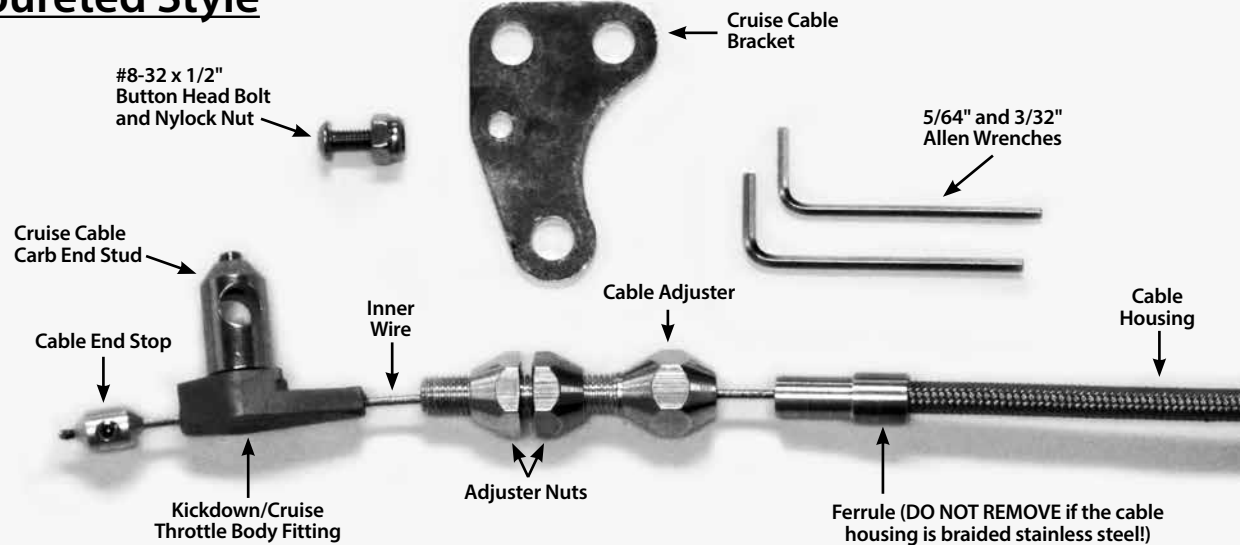
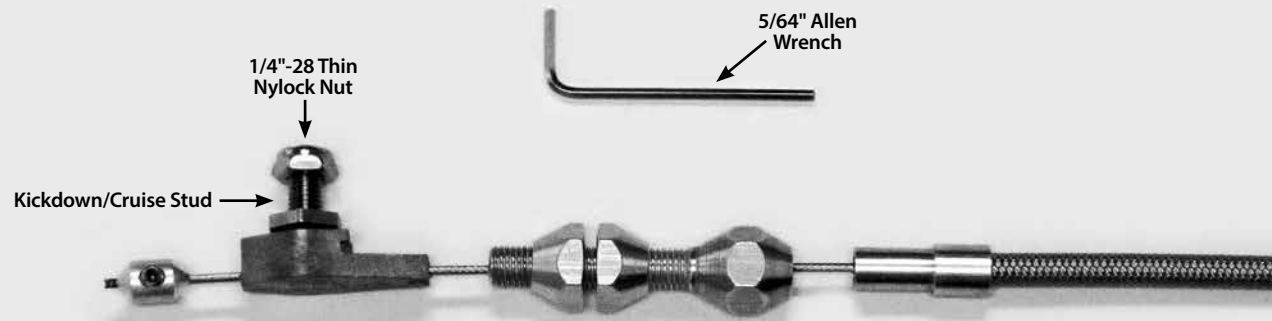

Fig. 1
Fig. 2
Refer to Fig. 1, 2 and 3 for the part names.
**Step 2:** Remove the cable end stop, kickdown/cruise throttle body fitting, and cruise cable carb end stud (carbureted style applications) or kickdown/cruise stud (vertical EFI style applications) from the Lokar Cruise Control Cable inner wire. Remove the cable adjuster from the end of the cable housing. **DO NOT** remove the ferrule if the cruise control cable has a braided stainless steel housing! If the cruise control cable has a black universal housing, remove the ferrule. **Fig. 1 & Fig. 2.**